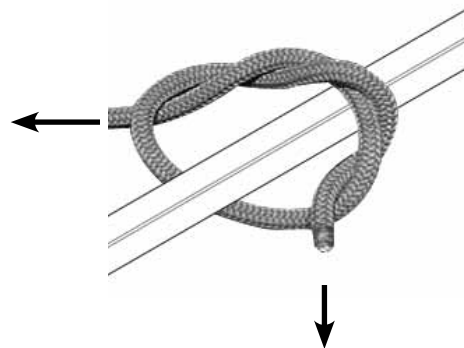

Figure 11
17. a. Tie one end of the provided 9' rope to the link welded onto the stabilizer bar, just in front of the tree hugger. Be sure your double knots are secure. **SEE FIGURE 11.**
b. Tie one end of each of the provided 15' ropes to the tree blade extension tubes, just in front of the bolt-on tree blade. Be sure your double knots are secure. **SEE FIGURE 11.**